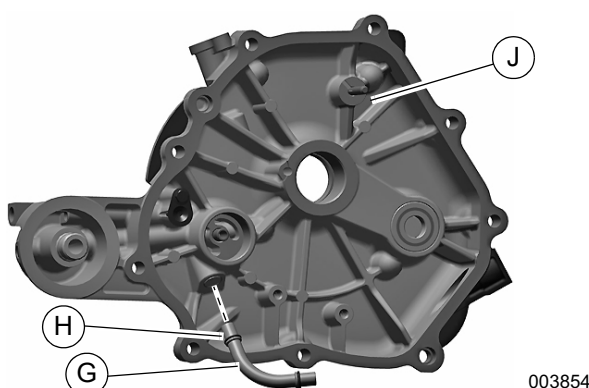

Figure 14-30. Install Oil Pick-Up Tube
- See Figure 14-30. Verify oil pick-up tube (G) is clean and free of burrs and debris. Install two O-rings (H).
- (Portable only)** Insert governor shaft (J) into governor shaft hole.
- See Figure 14-30. Install oil pump pick-up (K) on gear cover assembly. Insert loose end of oil pump pick-up tube into the pick-up as shown.